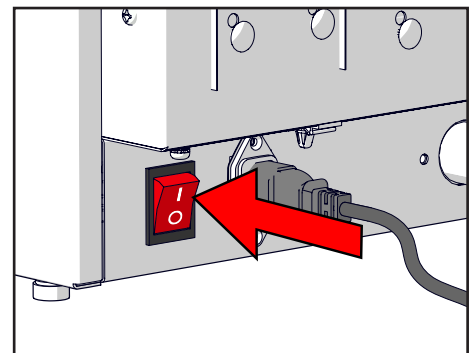

Figure 10.
6. Switch on the machine using the switch at the rear of the machine (see Figure 10).
Switch the machine on with the ON/OFF switch on the rear of the machine. The machine starts and heats up (see Figure 10).